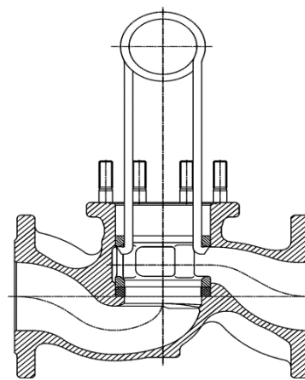

Figure 3
- » Pull out the lantern bush (Pos. 5) by means of a lantern bush drawer without damaging the surface of the body's bore (see Fig. 3)
- » Remove the lantern bush (Pos. 5) by means of a lantern bush drawer without damaging the surface of the body's bore (see Fig. 3)